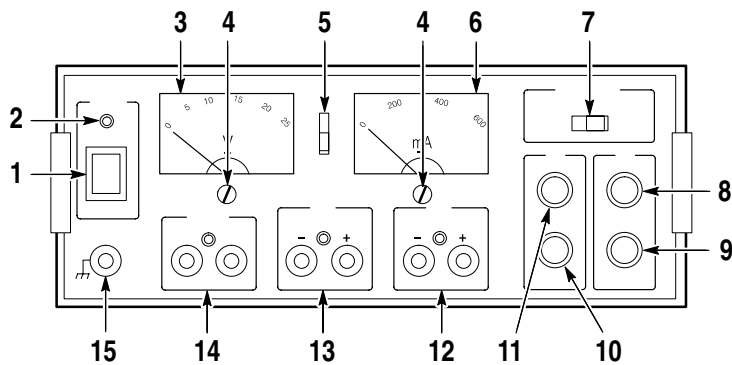

Figure 2: Front Panel
4. Check the V and mA meters for mechanical zero. Adjustment may be corrected with the mechanical zero adjust disk located below the center of each meter. (Refer to Figure 2, item 4.)
Figure 2 shows the front-panel controls, connectors, and indicators with brief descriptions of the items following the figure.